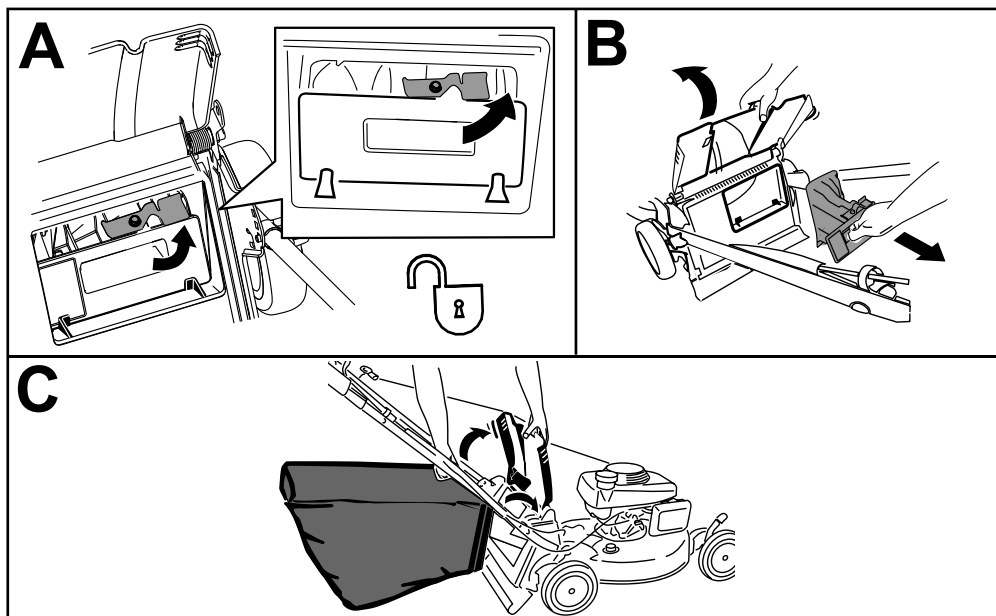

Figure 17
Note: To unlock the rear plug, rotate the lever on the plug to the right (Figure 17).
1. Raise and hold up the rear deflector and unlock the rear plug (A of Figure 17).
2. Pull out the rear plug (B of Figure 17).
3. Hang the upper front edge of the bag from the grass-bag pins on the notches of the handle brackets (C of Figure 17).